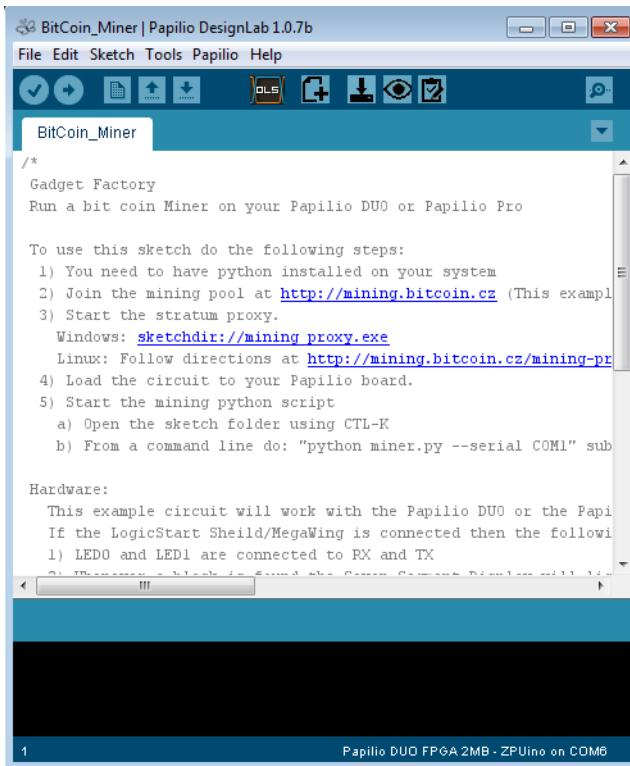

Figure 8-3 DesignLab Bitcoin example sketch/design
1. Open DesignLab and go to File→Examples→BitCoin_Miner →BitCoin_Miner (see Figure 8-3).